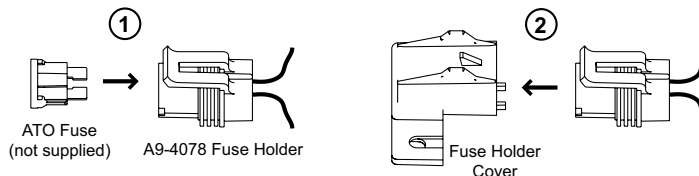

Figure 3: Install Fuse and Fuse Holder in Fuse Holder Cover
3. Insert appropriate size ATO fuse (40A or 5A) into A9-4078 fuse holder and slide fuse and fuse holder into fuse holder cover. See Figure 3.